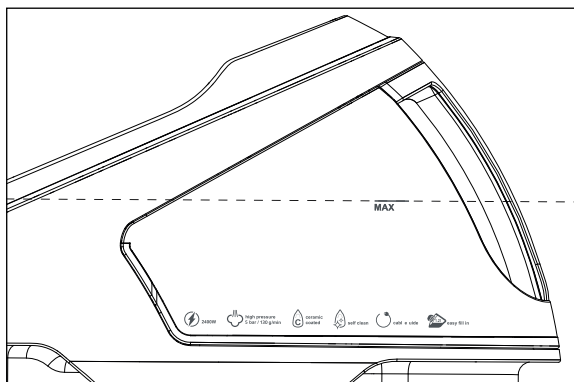

Fig. 3
- 3) Do not fill the water tank **7** beyond the **MAX** mark (see Fig. 3). Pour out any excess water through the filler opening. The maximum filling capacity of the water tank **7** is approx. 1.2 l.